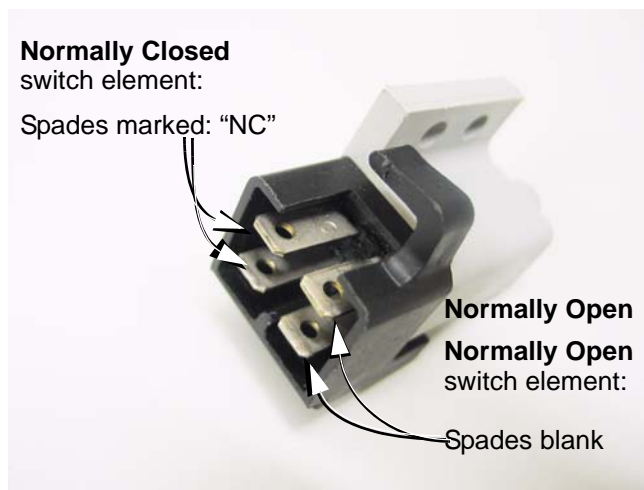

Figure 7.55
- The male spade terminals that are associated with each-other face each-other broad-surface to broad surface. See Figure 7.55.